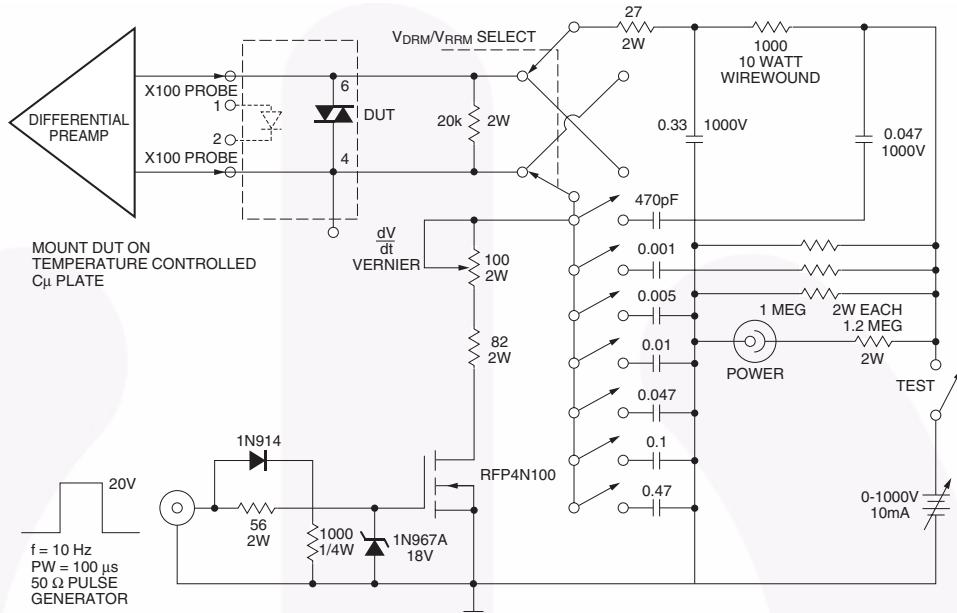

Figure 9. Circuit for Static $\frac{dV}{dt}$ Measurement of Power Thyristors
- This is static dv/dt . See Figure 9 for test circuit. Commutating dv/dt is a function of the load-driving thyristor(s) only.